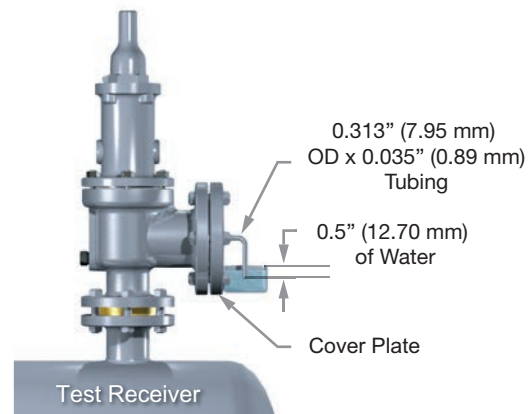

Figure 40: Typical Test Arrangement
General Information: Set up a typical test arrangement for determining seat tightness for SRVs on air or gas service (in accordance with ANSI B147.1/ API RP 527) (see Figure 40).
1. With the valve mounted vertically (see Figure 40), determine the leakage rate, in bubbles per minute, with pressure at the SRV inlet held at 90% of the set pressure immediately after popping. For valves set at 50 psig (3.45 barg) or below, hold pressure at 5 psig (0.34 barg) below set point. The test pressure shall be applied for a minimum of 1 minute for valves on inlet sizes through 2" (50.8 mm); 2 minutes for sizes 2.5" (63.5 mm), 3" (76.2 mm) and 4" (101.6 mm), and 5
Consolidated SRVs are furnished, when so ordered, with packed or plain lifting levers for hand-popping or with an air-operated lifting device for remote control (see Figures 40 through 42).